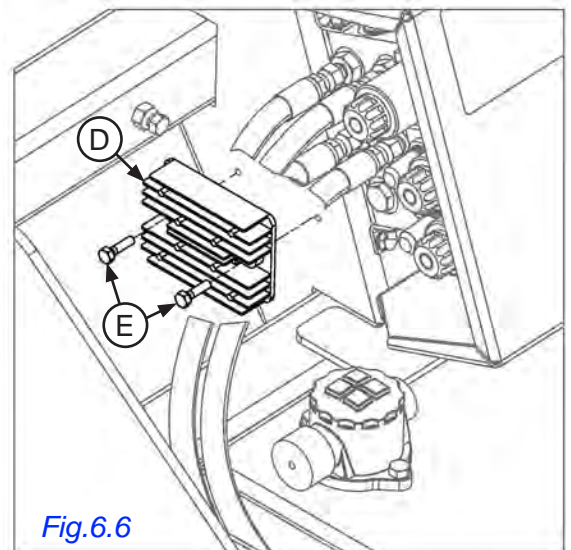

Fig.6.6
5. Mount rectifier **(D)** to matching threaded holes on left side of center frame tube using 2 1/4" x 1" hex bolts **(E)**. Clip plug to matching plug on engine. See Fig.6.6.